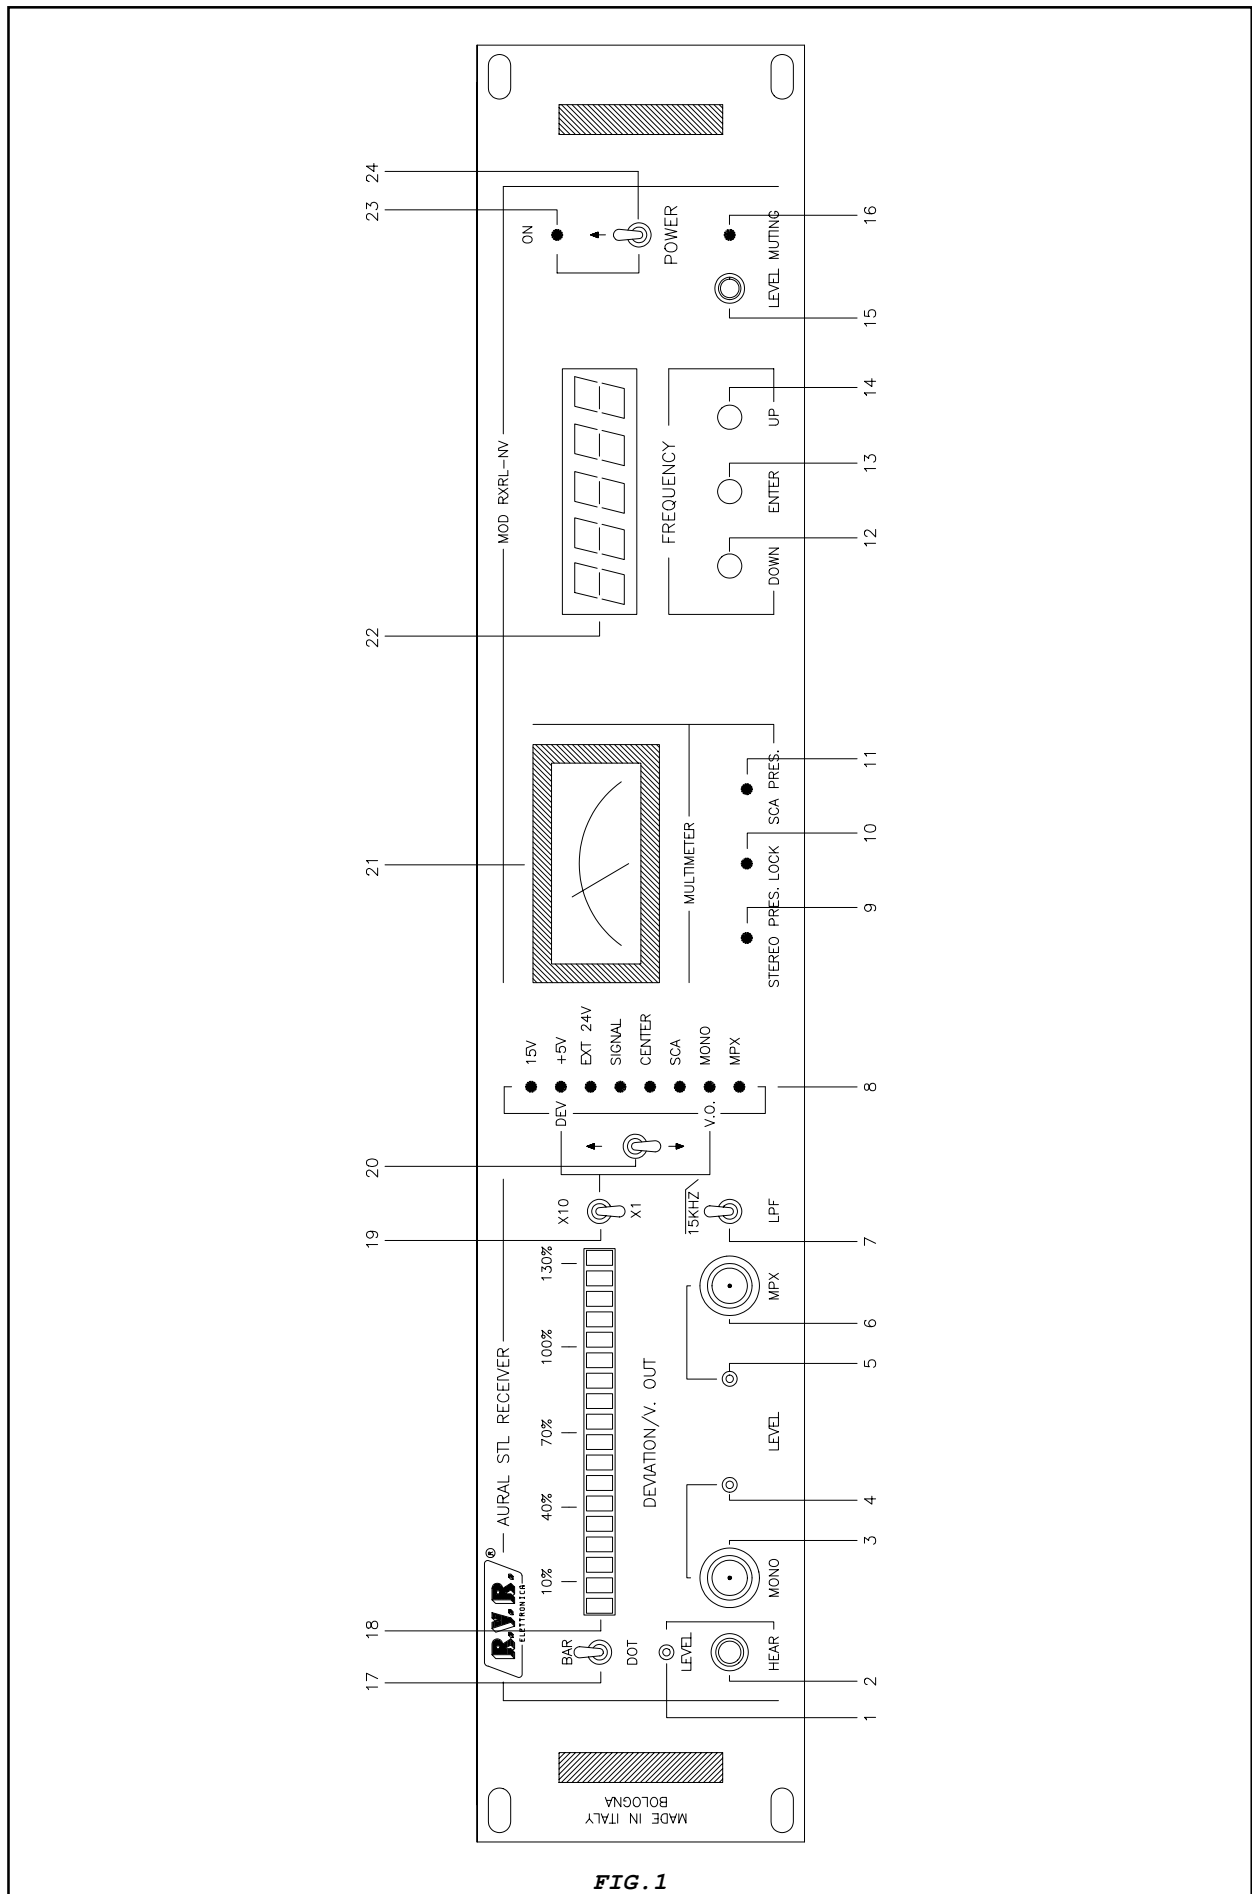

FIG. 1
The parameters are selected by a lever switch (20 Fig.1) and the selection is indicated by the legend of the green led (8 Fig.1).
This card is mounted on the right side of the front panel and allows adjustment of the receiver's muting threshold (= -83 dBm of default) and displays the muting status with a led (16 Fig.1).
FRONT PANEL VIEW DESCRIPTION (Fig.1)
- 3) Switch the power switch (24 Fig.1) to the OFF position.
- 5) Switch the power switch to the ON position and check that the green POWER ON led (23 Fig.1), and the green led corresponding to the parameter selection SIGNAL (8 Fig.1), are both lit.
After a few seconds the frequency display (22 Fig.1) will come on and display a number (eg. 760.00) corresponding to the last
The green LOCK led should switch on within 30 seconds indicating that the oscillator has locked to the operating frequency displayed. The display has five digits, 3 before the decimal point representing (from left to right) hundreds of MHz, tens of MHz and MHz; and 2 after the decimal point representing hundreds and tens of KHz. To change this number, use the UP (14 Fig.1) and DOWN (12 Fig.1) buttons to respectively increase it and decrease it.
Once the desired frequency has been found, press ENTER (13 Fig.1) to confirm and save it.
- 6) Connect an audio analyzer to the MONO (3 Fig.1) or MPX outputs (6 Fig.1).
Modulate the carrier with a 400Hz tone at a deviation of ±75Khz. Check that the analog meter (21 Fig.1) displays a reading of 1mV.
- 7) Select CENTER with the selector (20 Fig.1) and check that the
Set the modulation display gain (20 Fig.1) to 130% f.s.d.
Connect an audio analyzer to the MONO output (3 Fig.1).
Check that the bar-graph display (18 Fig.1) lights up to the first red led, indicating 100% deviation (equivalent to 75KHz).
9) Inject a signal with a level of -83dBm and adjust the MUTING trimmer R2 (15 Fig.1) until the red muting led switches on. The audio signal will be automatically disabled and the Modmeter bar-graph display will go out.